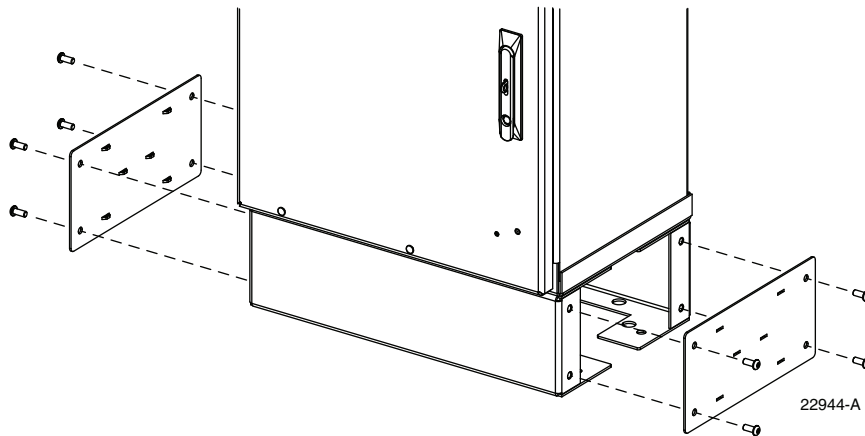

Figure 13. Removing Side Access Covers From Ground spacer/riser
1. Use a 3/16-inch hex-key to remove the screws that secure the access covers to the left and right sides of the cabinet spacer/riser as shown in Figure 13.